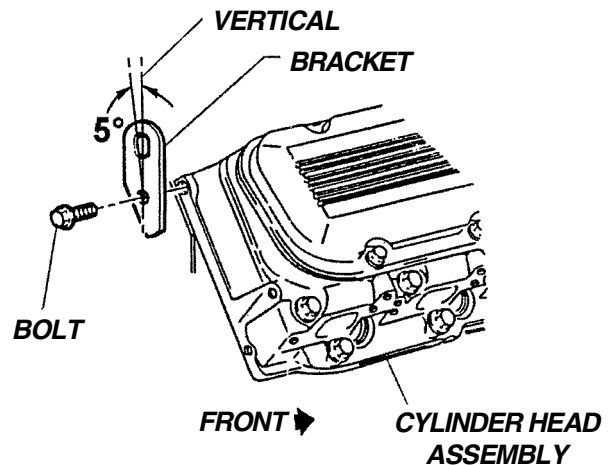

FIGURE 10
2. Torque the bolts of the engine lift hooks to 35 ft-lbs. See Figure 10.